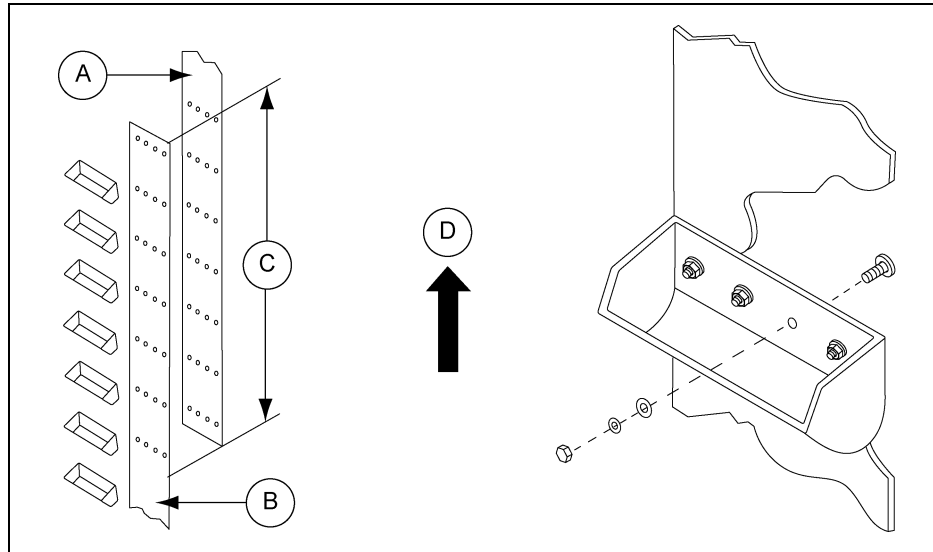

Figure 10A Belt Splicing
1. When overlap splicing, draw a 5' minimum of the belt coming up from the bottom of the boot over belt hanging down from head. *(See Figure 10A on Page 31.)*
(See Figure 10A.)